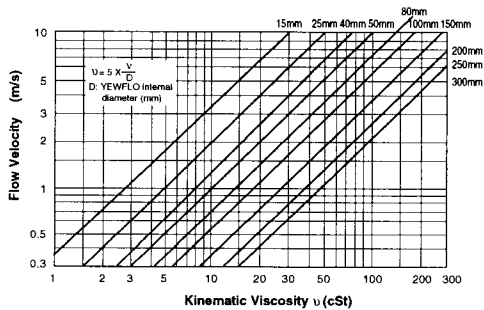

Figure 6 Flow velocity at Reynolds number of 5000(Liquid)
Kinematic Viscosity : Use of equation (2). When the nominal size is 50mm and the Kinematic viscosity is 10cSt, the flow velocity at Reynolds number of 5000 is 1m/s using Figure 6.